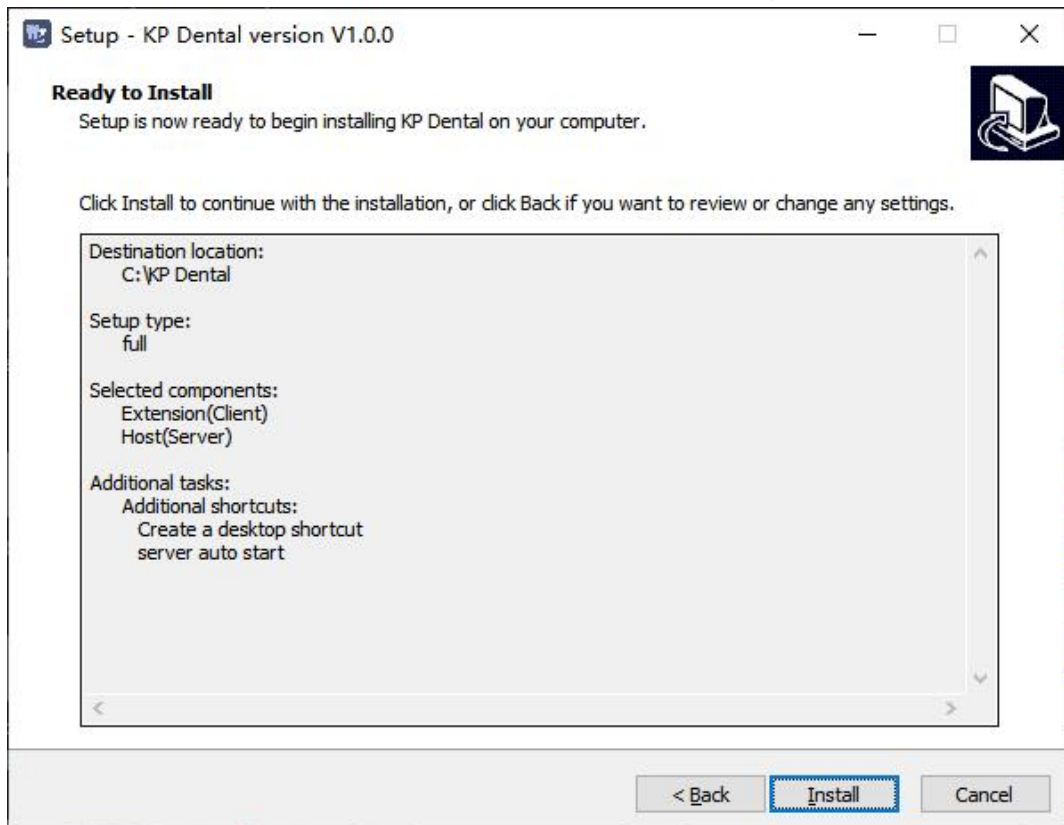

Figure 7
3.1.7 Click the “Install” button to start the installation, as shown in Figure 7: